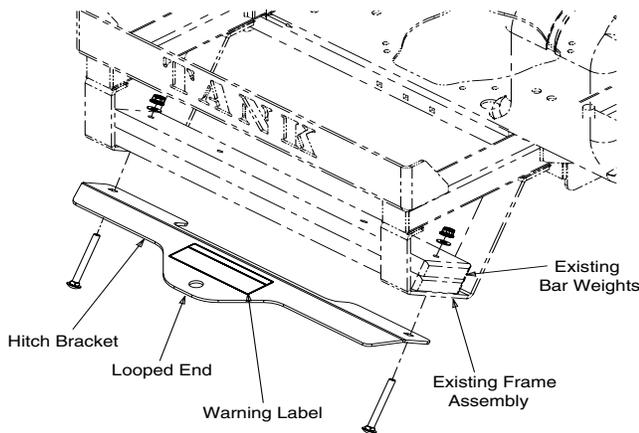

Figure 1
Figure 1 and Parts List
5. Hold the hitch bracket Ref. 5 (02002536) in place against the underside of the existing frame assembly, with the warning label Ref. 6 (02002693) facing up and the looped end facing out. See Figure 1 below.